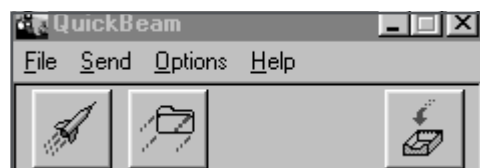

Figure 84: The QuickBeam Window
- Click on the desired file, and drag it onto the rocket button in the QuickBeam window, as shown in Figure 84.